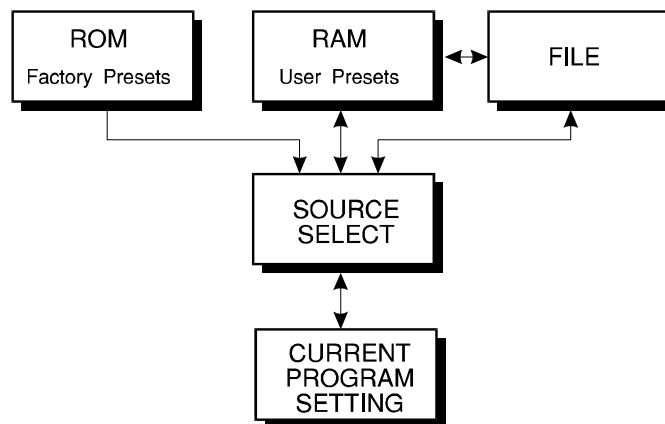

Fig. 2
When a program is recalled - either selected from ROM, RAM or FILE with the source selector (16A, in program mode) - it is **copied** in to a working memory. Here a program can be edited and it is referred to as the "current setting". This means that it is the current program setting, which is displayed on the alpha-numeric display (4). The current setting is - as RAM - also backed up by battery and will remain in working memory after power down. A small LED in front of the program number in the PROGRAM NUMBER display (6) will indicate where the current program is copied from. As soon as the current setting is edited the small EDITED LED in the PROGRAM NUMBER display (6) will light up. When you wish to store the new edited program you have different options to choose from. You can store it in RAM or FILE and overwrite the original recalled program or you can rename it - creating a new program. Storage means that the current setting in the working memory is copied into either RAM or FILE buffer. All programs can instantly be copied to and from RAM and FILE buffer (fig. 2).